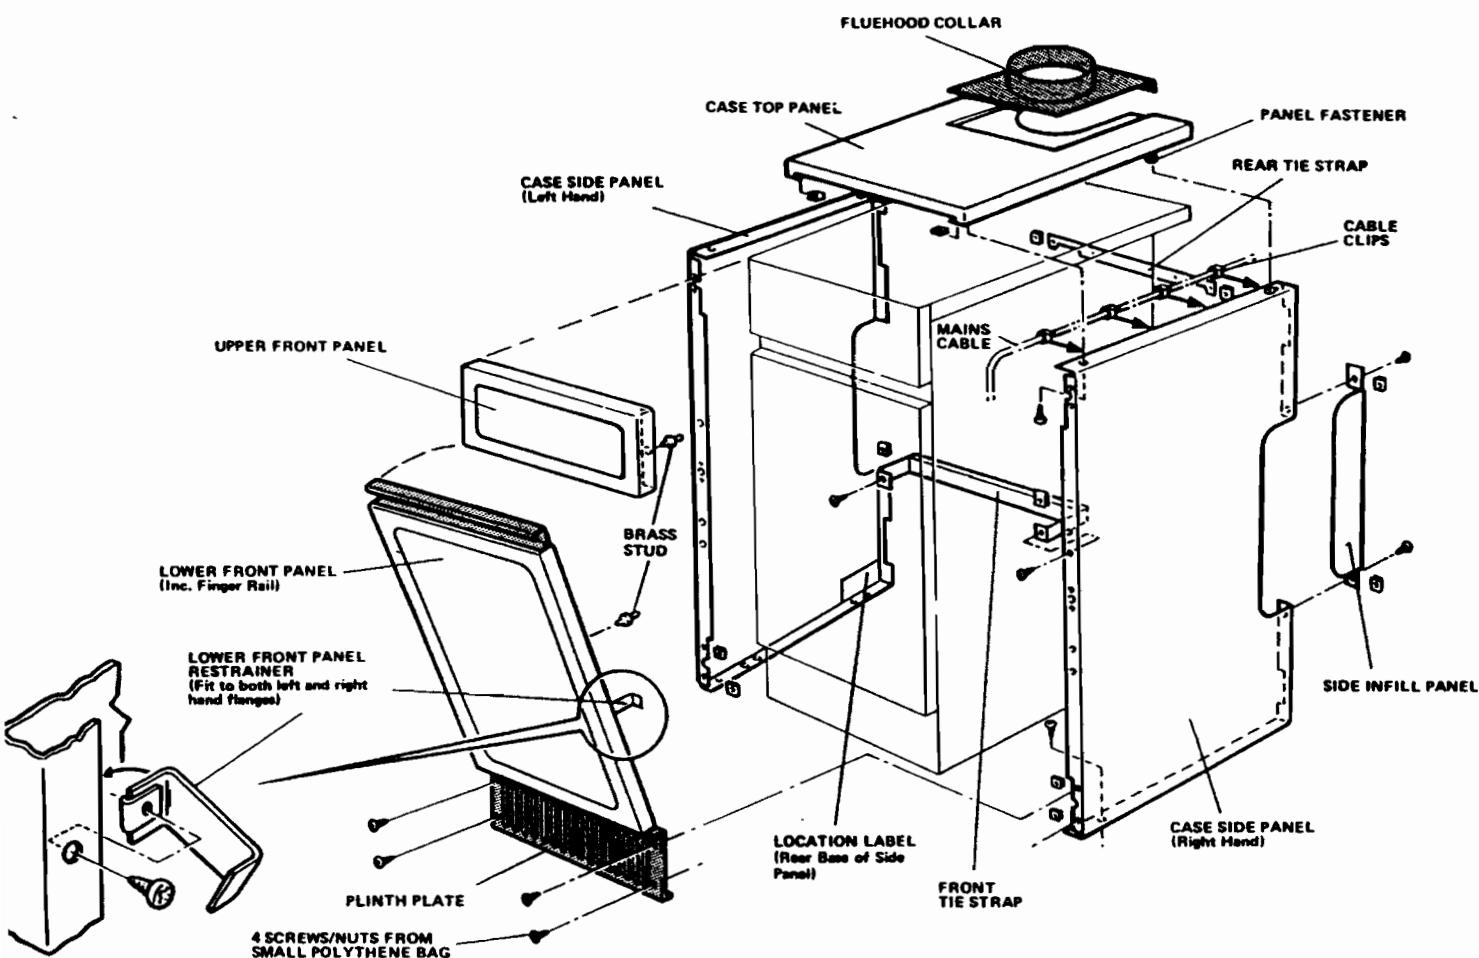

FIG. 10
10. CASING—See Fig. 10
- E. Fit the captive nuts supplied in the Fastener Pack to the hole positions shown in Fig. 10 (8 off, including 2 for the side infill panel if fitted). The 4 smaller captive nuts and screws contained in the additional bag should be used for the plinth.
R. Fit the two universal case restraining brackets and their captive nuts to the holes beneath the bank of three holes in the flange of the lower front panel (see Fig.10).